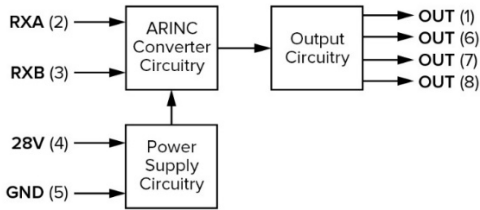

FIGURE 29. SR429/4M Series-N (8 Pins).
The SR429/4M provides four primary and four additional active outputs, see Figure 29 and 30. Each primary output represents a distinct bit, according to the ARINC 429 32-bit word protocol. The four additional outputs may include inverted data bit outputs, Health Monitor, Watchdog, or a binary decode of the SSM bits. See Table LIX.
OUT Pins 1,6,7,8	Up to four outputs, as shown on FIGURE 29, selected from combinations of 1) specific decoded ARINC 429 data bits 11-31 2) Health Monitor (H), and 3) Watchdog (W). Each numeric ARINC 429 Bit can be specified at the time of configuration to be Output = Open when Bit = 1 or Output = Ground when Bit = 1. When Bit = 0, outputs will be orthogonal to their specified state when Bit = 1. Bits can be repeated or left unused. Health Monitor and Watchdog have defined output level.